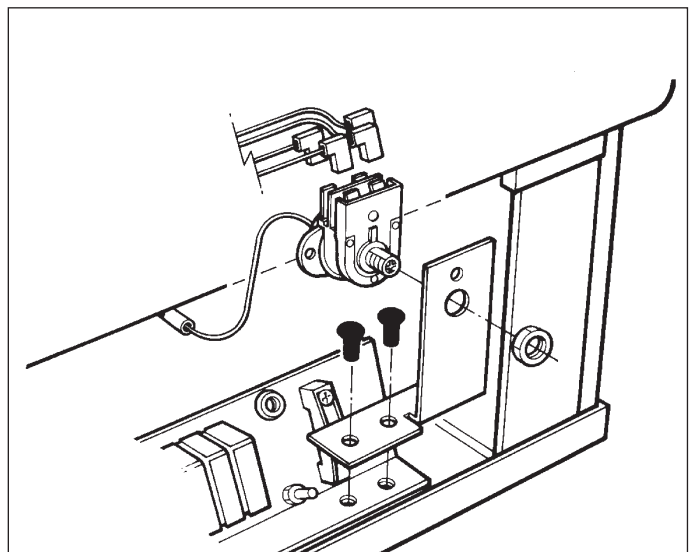

FIG. 27
3. Remove 2 screws from CDSD retaining bracket (See Fig. 27). and remove bracket.
5. Remove spindle lockout and electrical leads from CDSD, extract CDSD. (See Fig. 27)